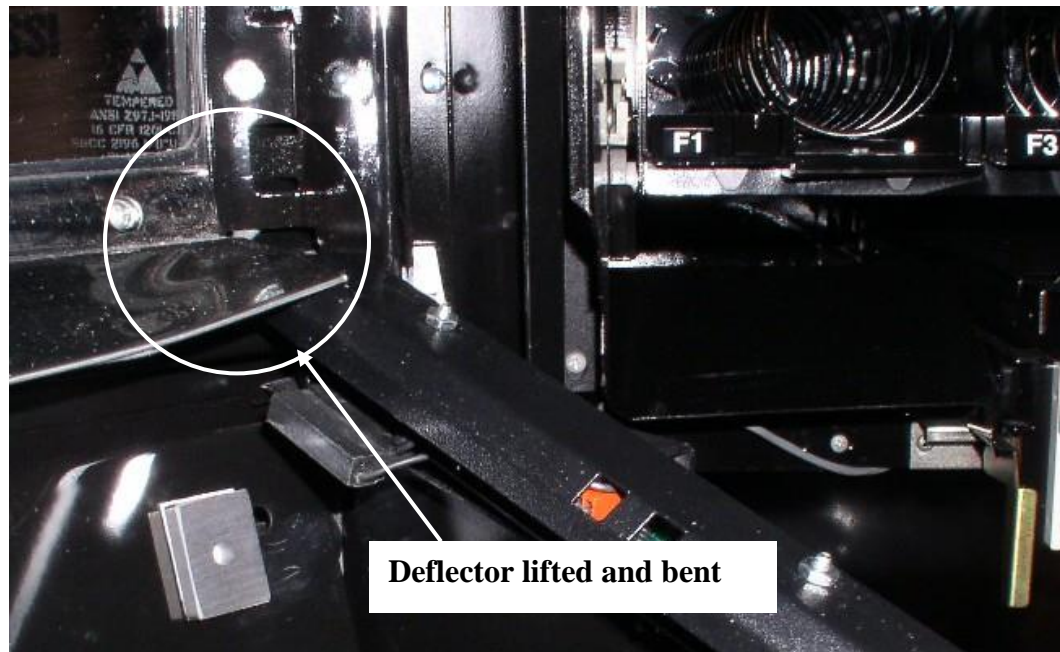

Figure 1 (typical representation)
1) In order for sensor bracket assembly to fit properly. The stainless steel deflector, running underneath front glass of machine, will need to be lifted and bent. Lift and bend lower corner of deflector, located closest to the hinged side of machine door. **(Figure 1)**